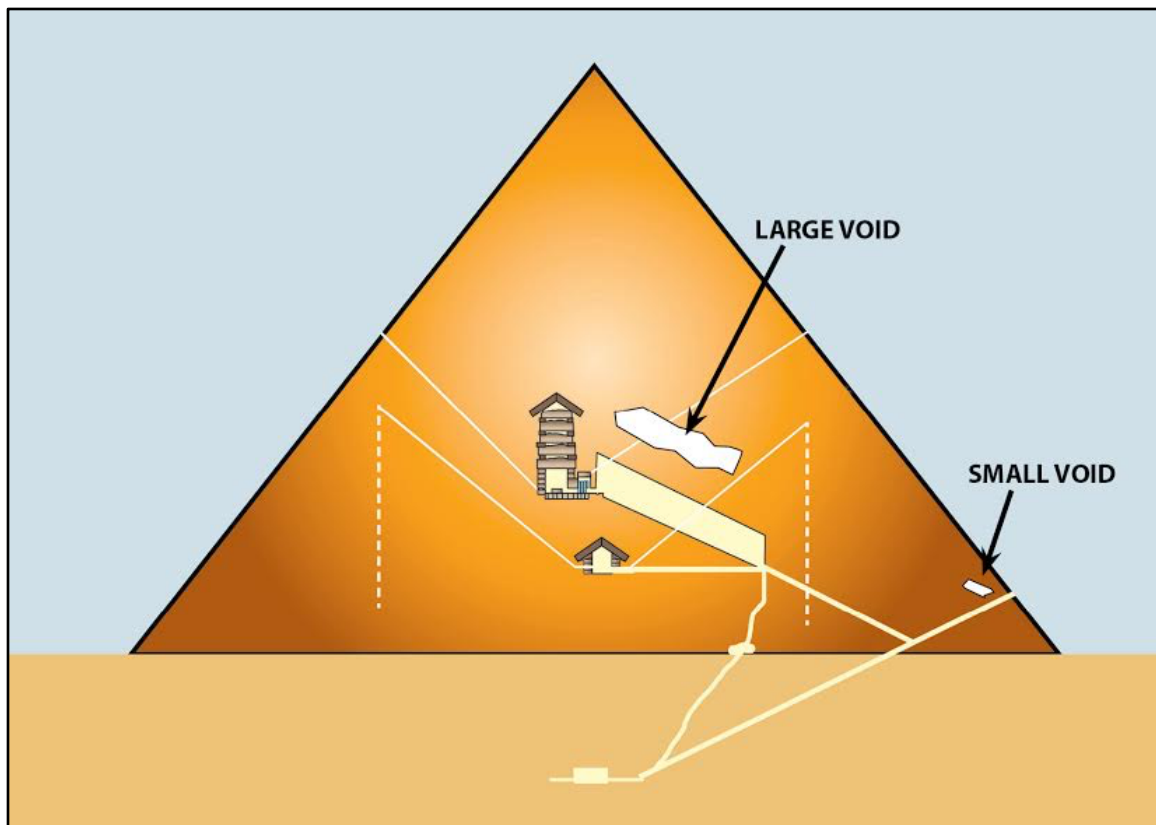

Figure 21. Discovery Of Mysterious Voids In Cheops
Five (refer to Figure 21)
The scientists worked with ScanPyramids,²⁵ the French Heritage, the Innovation and Preservation Institute,²⁶ the Faculty of Engineering of Cairo, and the Egyptian Ministry of Antiquities. In 2016, a team of physicists and engineers discovered what appears to be a small void/corridor behind the chevrons (Figure 6) of the original entrance corridor to the interior of the pyramid. Then, in 2017, a large void was discovered just above the Grand Gallery (Figures 7 and 8) and is estimated to be about 100-feet long and 50-feet high as illustrated in Figure 21. Three teams of physicists and engineers repeated the findings and measurements to validate their findings, and each time the conclusion was the same.
- Figure 21. Paul Bunch